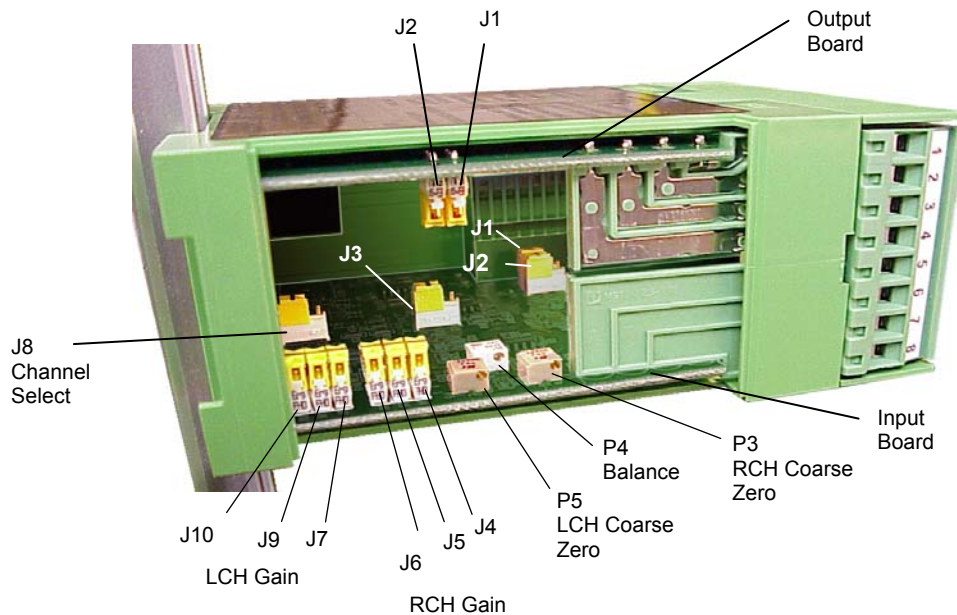

Figure 4 - Internal Jumper-switches and Potentiometer Location
A number of operational characteristics can be configured prior to mounting or wiring the amplifier. We recommend that you first familiarize yourself with the internal switch locations, settings, and potentiometers by opening the snap-on access cover. Figure 4 illustrates the location of configurable items on each of the printed circuit boards.
In addition to the Gain and Zero adjustable potentiometers visible on the front of the unit, there are adjustments you can make by removing the snap-off cover on the side of the amplifier. The adjustments are on the output and input printed circuit boards as shown in Figure 4. The following table provides you with a list of potentiometers, where they are located on the Ultra Series DIN Rail input printed circuit board, and a description of their functions. For information on the correct adjustment tools to use, refer to section 3.7 in this document.
The Excitation Voltage is determined by the position of jumper switch J3. Refer to Figure 4 for jumper-switch locations. The jumper default setting is J3 (1-2) position for 5.00V excitation. Do not use 10V setting J3 (2-3) position unless explicitly permitted by the load cell electrical specifications. Promptly verify the excitation voltage after power-up to avoid overdriving strain gages. Note that if there is no external load resistance, the voltage may rise to 6.4V, but will immediately regulate at 5.00V when the load cells are connected.
The group of jumper-switches that control the fixed gain of the Instrumentation Amplifiers (IA) are located close to the front left edge of the Input card. (Refer to Figure 4) Typically, you configure both channels to the same setting if both transducers are the same force rating.
When the amplifier is held horizontally with the pluggable connectors facing toward the right (refer to Figure 4), the leftmost cluster of jumper switches, (J10, J9, J7) sets the gain for the LCH (Left Channel) Instrumentation Amplifier. Similarly, the right cluster of jumper switches, (J6, J5 and J4) sets the gain for the RCH (Right Channel) Instrumentation Amplifier. The lowest gain ($A_v = 8$) occurs when all of the switches are in the 1-2 position. As switches are moved “away” (into position 2-3) from left to right, the gain progressively increases as described in following table:
The damped output for a tension indicator can be configured as either a +/- 2V output or a +/- 1mA output by changing the position of jumper-switch J1 located on the Output Card (Refer to Figure 4 for location). Voltage output is selected by setting J2 to the (1-2) position. Current output is selected when J2 is set to the (2-3) position. Note that different wiring terminals are employed for the signal return when configured for current or voltage.
The amount of damping for the meter output (intended to drive a tension indicator) can be configured by the position of jumper-switch J2 on the Output card (refer to Figure 4 for location information). Setting the jumper switch to J2 (1-2) sets the break frequency at 0.3 Hz. Setting the jumper switch to J2 (2-3), the break frequency setting is raised to 3.7 Hz